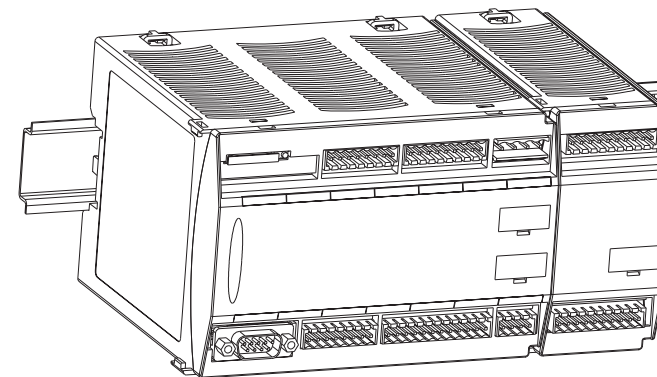

Fig. 5-1: Installing the safety system
- The safety system should be installed in a control cabinet with a protection type of at least IP54. Fit the safety system to a horizontal DIN rail. The venting slots must face upward and downward. Other mounting positions could damage the safety system (see Fig. 5-1).